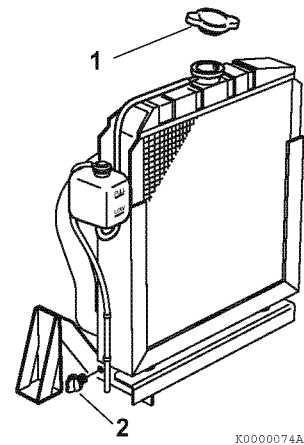

Figure 16
1. Remove the radiator cap (1, **Figure 16**).
2. Loosen the drain plug or open the drain valve (2, **Figure 16**) at the bottom of the radiator and drain the engine coolant.